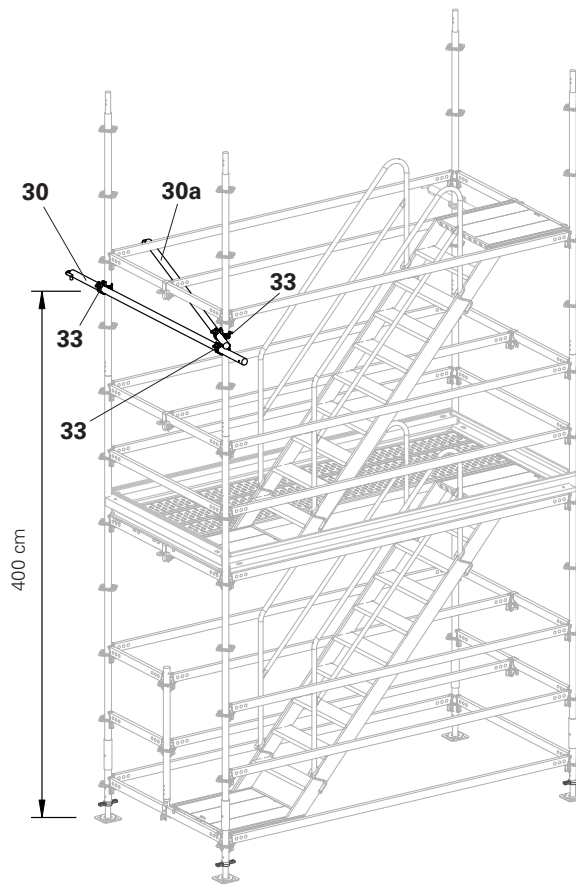

Fig. A6.02
3. Fix Wall Ties to the wall, e.g. with ring bolts and wall inserts, or equivalent connection. (Fig. A6.02)